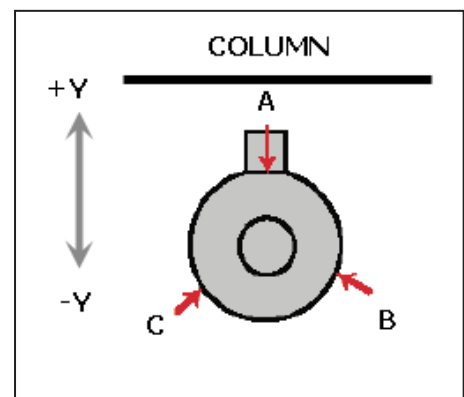

Figure 8.24
- a. Orient the probe in the spindle so one of three adjustment screws is opposite the machine column (see **Figure 8.24**). Label this *Screw A*.